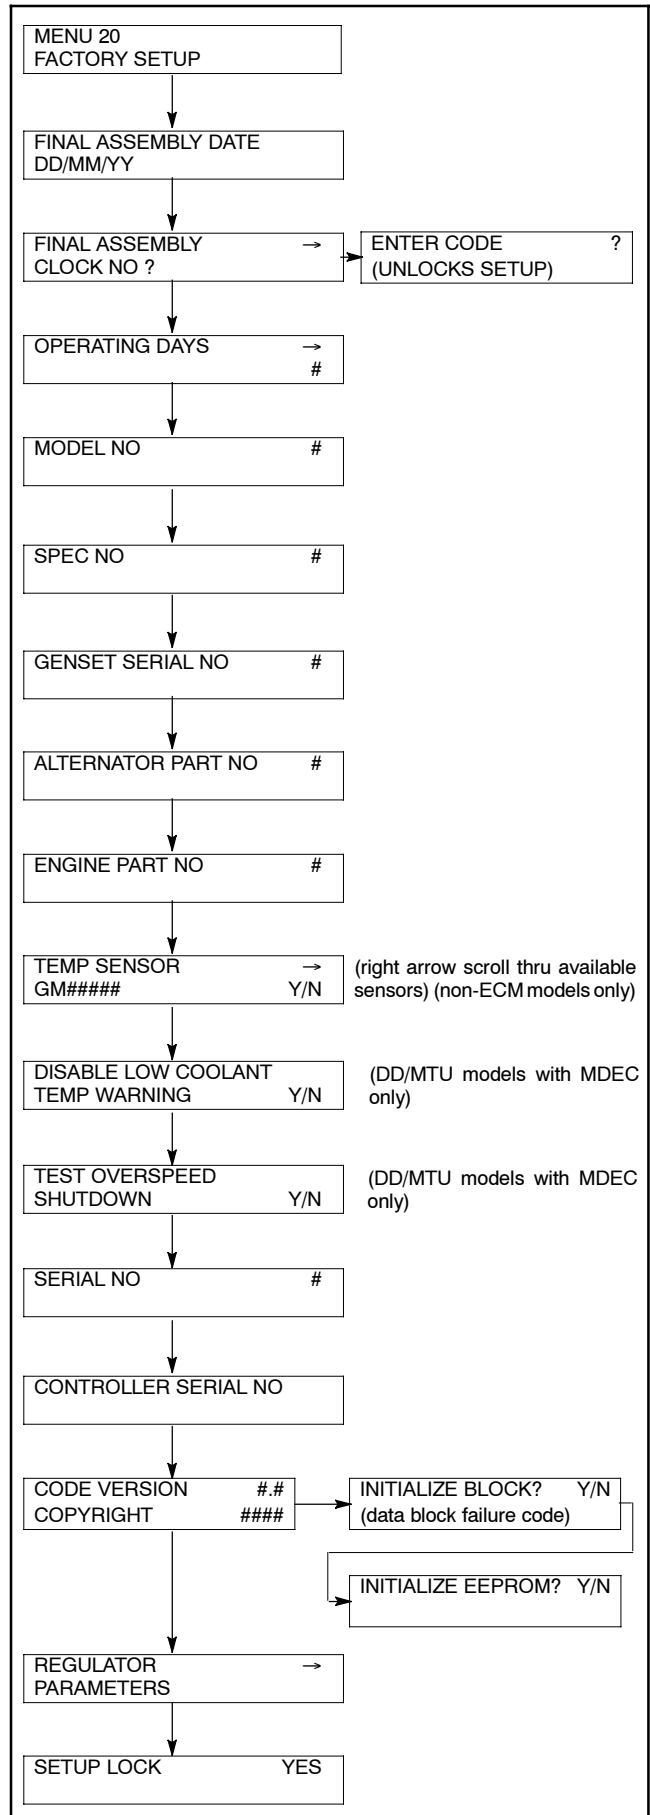

Figure 7-9 Menu 20, Factory Setup
- c. Use the controller keypad to go to Menu 20, Factory Setup. See Figure 7-9 for displays.
- d. Use the controller keypad to go to Menu 20, Factory Setup. See Figure 7-9 for displays.
- i. Go to Menu 20, Factory Setup. See Figure 7-9 for displays.